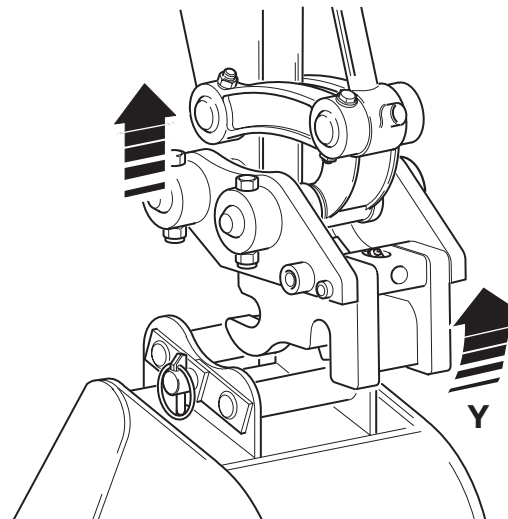

Fig 108.
- 6 Slowly roll the Quickhitch back and simultaneously raise the dipper arm to release the buckets' front pivot pin, ⇒ Fig 108. \(□ 285\) at Y.